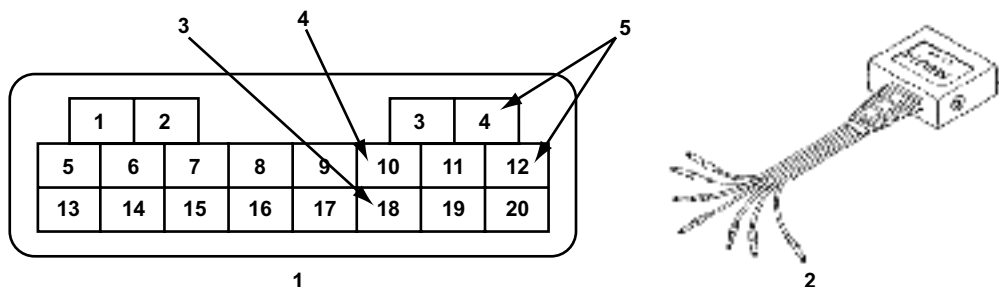

Figure 11-2 20-pin DLC and MULTI-1 adapter—transmission codes
- Connect the MULTI-1 adapter with red terminal converters as shown in Figure 11-2 (red lead to terminal 18, blue lead to terminal 11, and black lead to terminal 4 or 12).